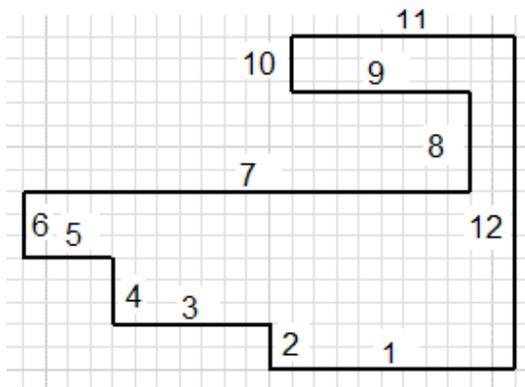

Figure 2-77 Sketch after drawing the lines
3. Move the cursor upward in the graphics window. Next, enter **4** in the length input field, press **TAB**, and enter **90** in the angle input field; line 2 is drawn, as shown in Figure 2-77.
*In Figures 2-77 and 2-78, the display of axes and grids have been turned off for a better visibility of the lines of the sketch.*